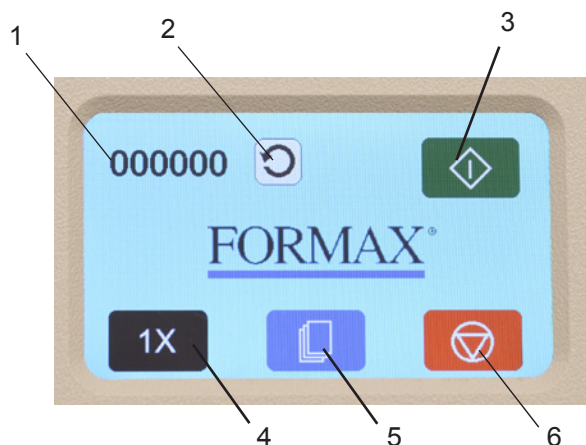

Fig. 3
4. If equipped, insert the optional Multi-Sheet Feeder into the four slots located on the top cover (Fig 3).